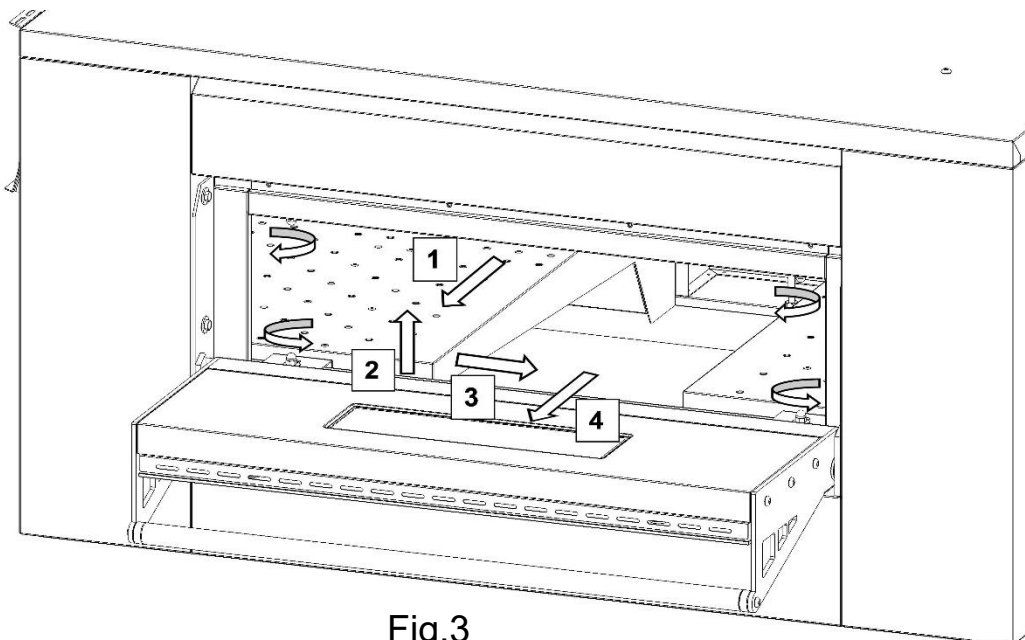

Fig.3
8. Open the side hatch and unbolt the nuts using a number 10 spanner. Making sure to wear a pair of heavy duty gloves to avoid getting scratched from sharp metal corners and take out the diffusers (see Fig.3 paragraph 9.3.1).
7.Open the side hatch and unbolt the nuts using a number 10 spanner (Fig.3). Only for DPZ3030EN model, remove the lateral door and unscrew the fixing bolts with a number 10 spanner.
8.Making sure to wear a pair of heavy duty gloves to avoid getting scratched from sharp metal corners and extract the diffusers as shown in Fig.3 Following the sequence 1-2-3-4.